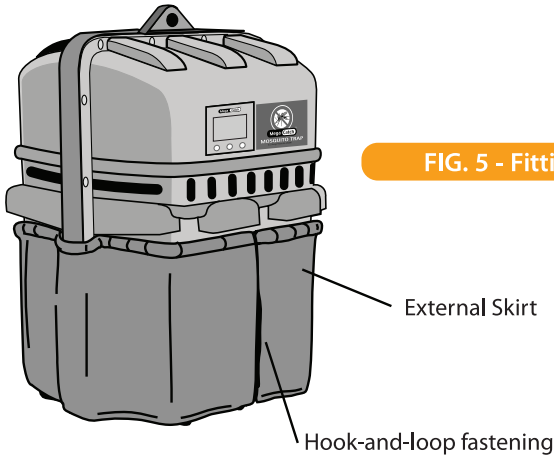

FIG. 5 - Fitting External Skirt
3. The Skirt is properly fitted when the elastic band is seated over the lower horizontal rib, just below the inlet holes (see figure 5). The opening in the Skirt should be located at the front of the Trap so as to facilitate removal of the Door without having to remove the Skirt. The hook-and-loop fastening on this opening should be closed when the Trap is running.
3. The Skirt is properly fitted when the elastic band is seated over the lower horizontal rib, just below the inlet holes (see figure 5). The opening in the Skirt should be located